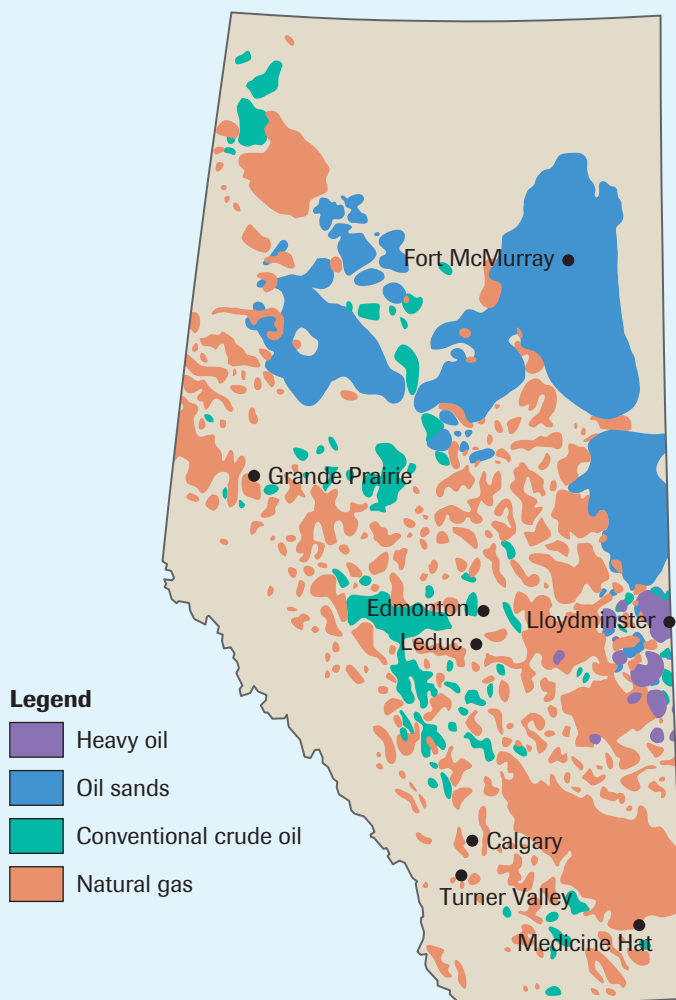

Figure 2
Alberta is very rich in fossil fuels. The most widely accepted hypothesis for the origin of these fossil fuels is that they formed from sand, silt, and plant and animal remains starting about 500 Ma ago. The majority of hydrocarbons found in Canada exist in the Western Canada Sedimentary Basin, which covers all but the northeast corner of Alberta (**Figure 2**).
- (a) Based upon Figure 2 on the previous page, which are the most widespread fossil fuel deposits in Alberta?
(b) What fossil fuels found in Alberta are not depicted in Figure 2?